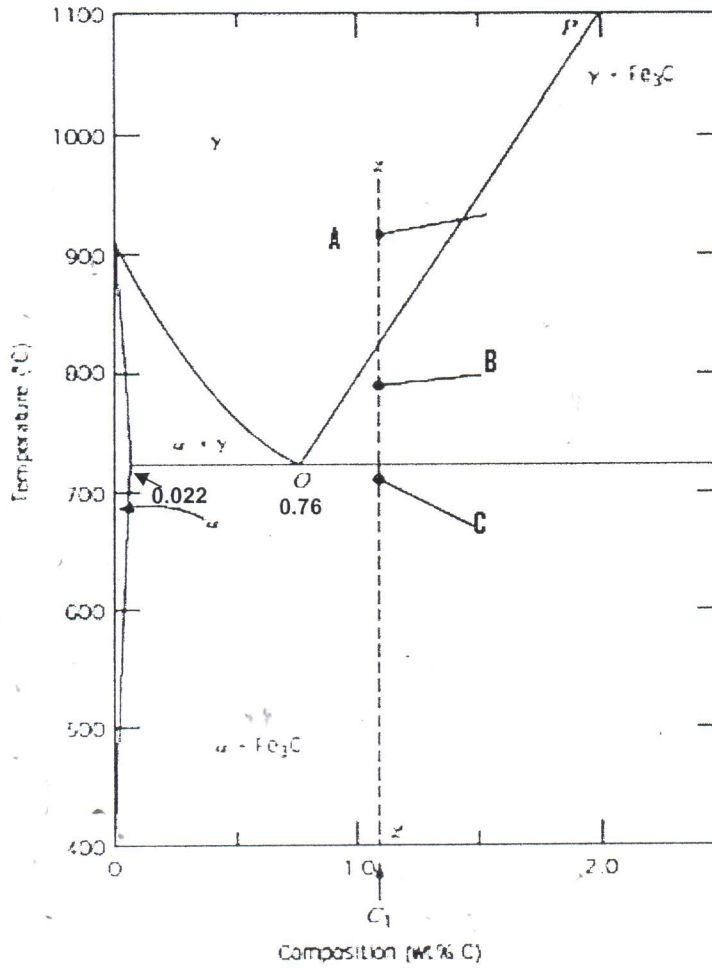

Figure 1: Iron Carbon Diagram
- (b) Sketch the microstructure at A, B and C points shown in Figure 1 of an iron-carbon alloy of hypereutectoid composition C_1 (containing between 0.76 and 2.14 wt% C), as it is cooled from within the austenite phase region to below the eutectoid temperature.
- (c) For a 99.65 wt% Fe–0.35 wt% C alloy at a temperature just below the eutectoid, determine the following. Refer figure 1.